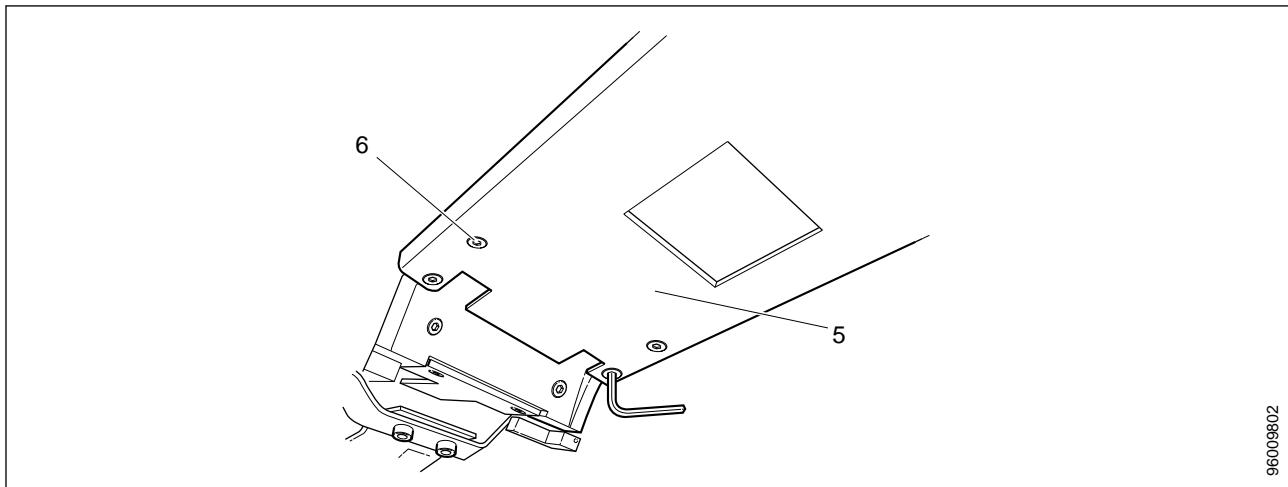

Fig. 5 Removal of diaphragm plate
8. Remove the four Allen screws (6/Fig. 5).
9. Remove the diaphragm plate (5/ Fig. 5).